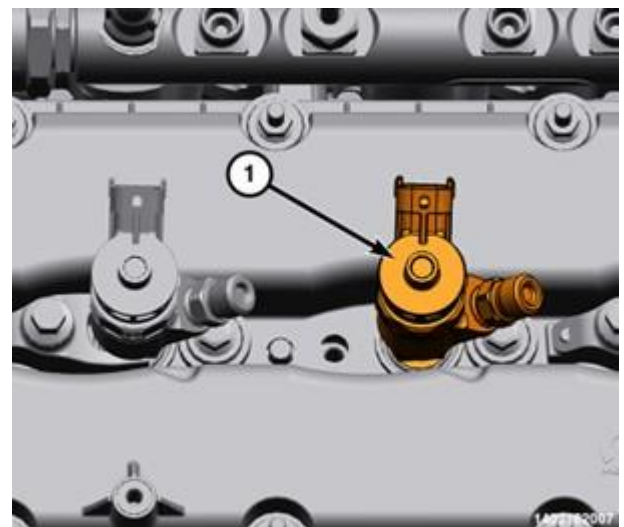

Figure 133 – Fuel Injectors
- 72. Using your hand, pull the fuel injectors (1) straight up from the cylinder head for removal. Discard the lower sealing washer and place a protective cap over the injector bore (Figure 133).